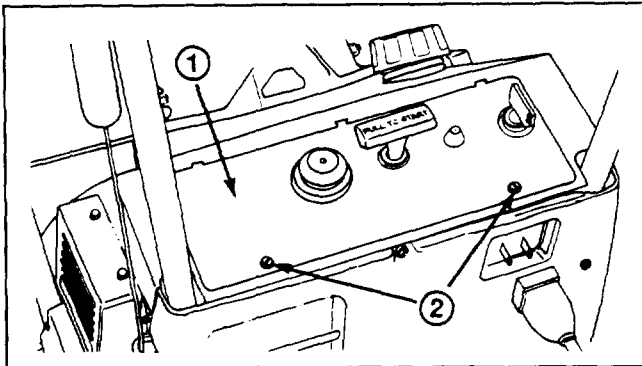

Figure 15
1. REMOVE CONTROL PANEL (Fig. 15) — Remove (2) screws securing control panel to housing. Remove ignition key and lift off panel, allowing it to hang on recoil rope.